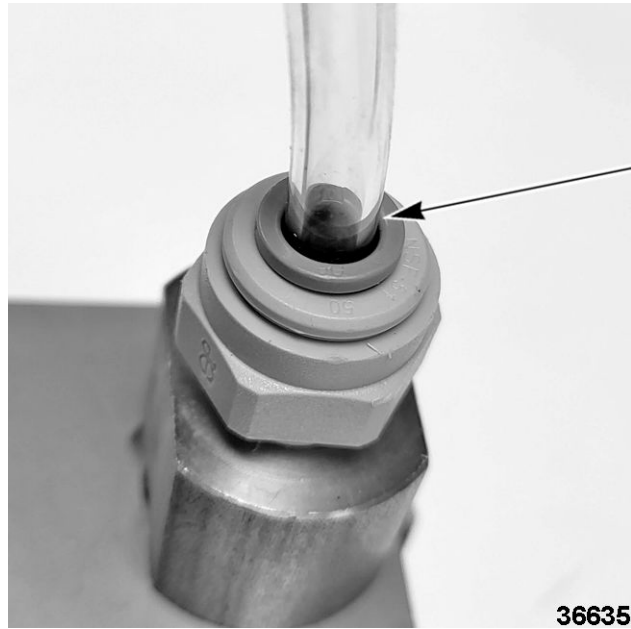

Fig. 86
**NOTE:** When fully inserted into the spray nozzle, tube marking is NOT visible (Fig. 86).